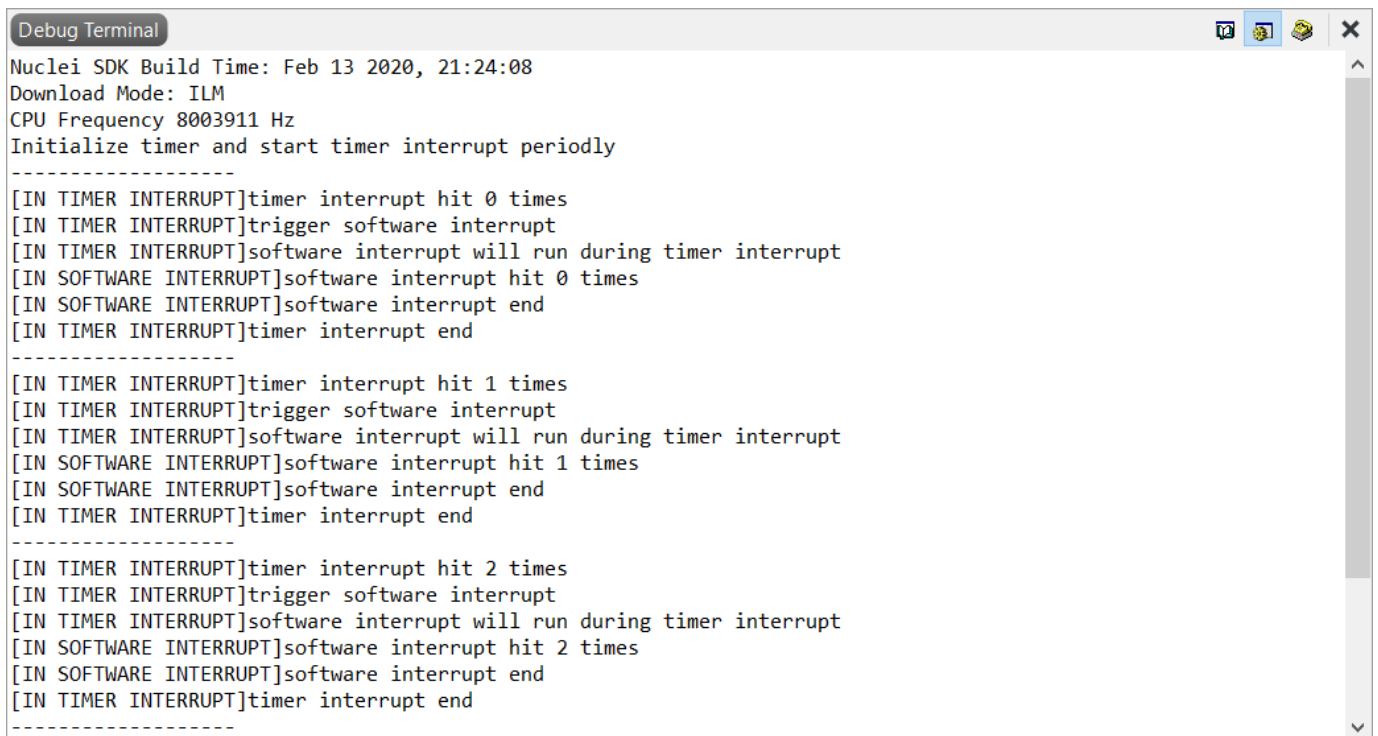

Figure 4-16 The Output of Project demo_eclic through J-Link
After that, user can redirect the output to RTT, and the debug terminal will be opened automatically at runtime. Take demo-eclic project output as an example, use J-Link RTT to output is as shown in Figure 4-16.
- When the program running, if printf function is used, the output can be redirected to PC. Take demo-eclic as an example, you can see the output as shown in Figure 4-12 (Printout through Serial Port) or Figure 4-16 (Printout through RTT).